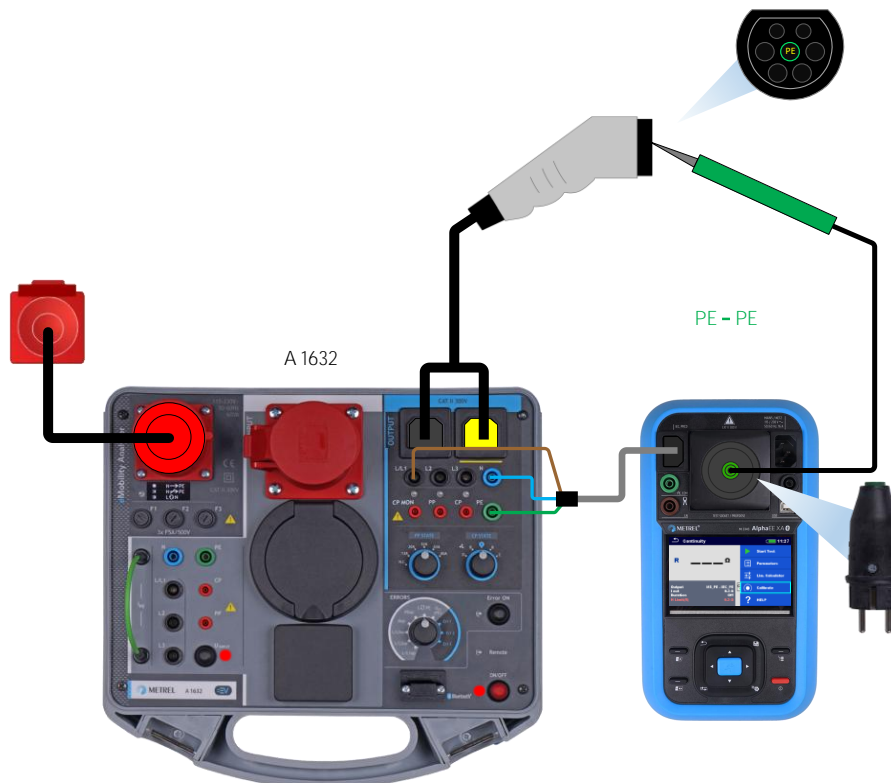

Figure 33_Test leads compensation
- Connect test leads according to the connection diagram Figure 33_Test leads compensation,